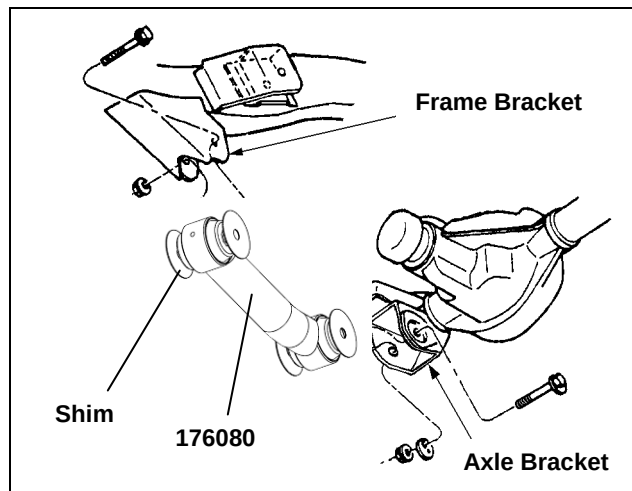

Figure 6
- 5) ☐ Install new Rancho suspension link assy 176080, along with 4 shims from kit 860218, to the frame and axle brackets as shown in figure 6. Use original hardware but do not tighten.